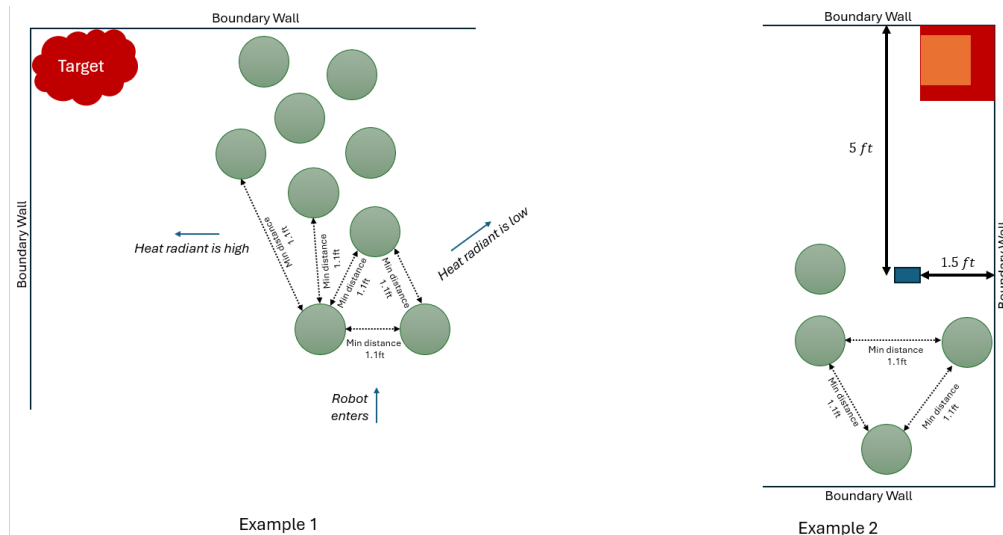
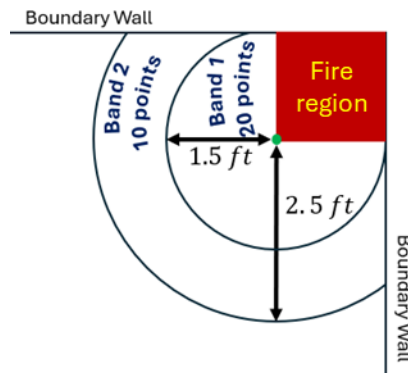

Figure 2. Illustration of obstacle placement in the game field (top view)
Figure 4. Example fire set up in the top right corner of game field to illustrate scoring bands (top view)
**Obstacles:** The game field will contain dowels/ PVC pipes that are attached to the floor as obstacles that represent upright trees. The obstacles will be tightly fastened to the floor to stay upright even upon a collision by a robot. No one of these obstacles will be lying flat on the game field. These obstacles will be no more than 1 *inch* in diameter and can be placed in a manner to create narrow pathways that are no less than 1.1 *feet*. The intended paths for the robot to navigate will have at least 1.1 *feet* between obstacles in all directions as shown in figure 2. However, there could be obstacles closer to each other, but they are meant to represent an infeasible path. The game field will not have sharp turns. The robot must be able to make the turns such as the ones illustrated in example 1 and 2 in figure 2, ideally without hitting obstacles. (*Note: compact robot design to meet this turn radius is recommended*)
**Scoring bands for fire detection:** There will be bands as shown in Figure 4, around the region colored in red which is set up as location of fire. The robots should not enter the fire region, but rather come closer to the fire region. The judges will use these bands to score the robot's closeness to the fire region. This will be used as the performance metric to score the robots in concerned rounds, please read section 3.5 for more details on judging. The bands 1 and 2 are circles of radius  $1.5\text{ ft}$  and  $2.5\text{ ft}$  respectively, that are drawn with the green dot (edge of the  $1.5\text{ ft} \times 1.5\text{ ft}$  fire region in red) in Figure 2 as center.